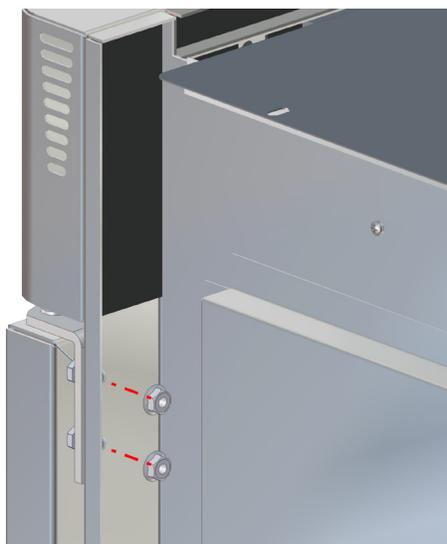

Fig. 17: Secure door with nuts
18. From the side of the unit, secure the door and top hinge with the nuts as shown in Fig. 17.